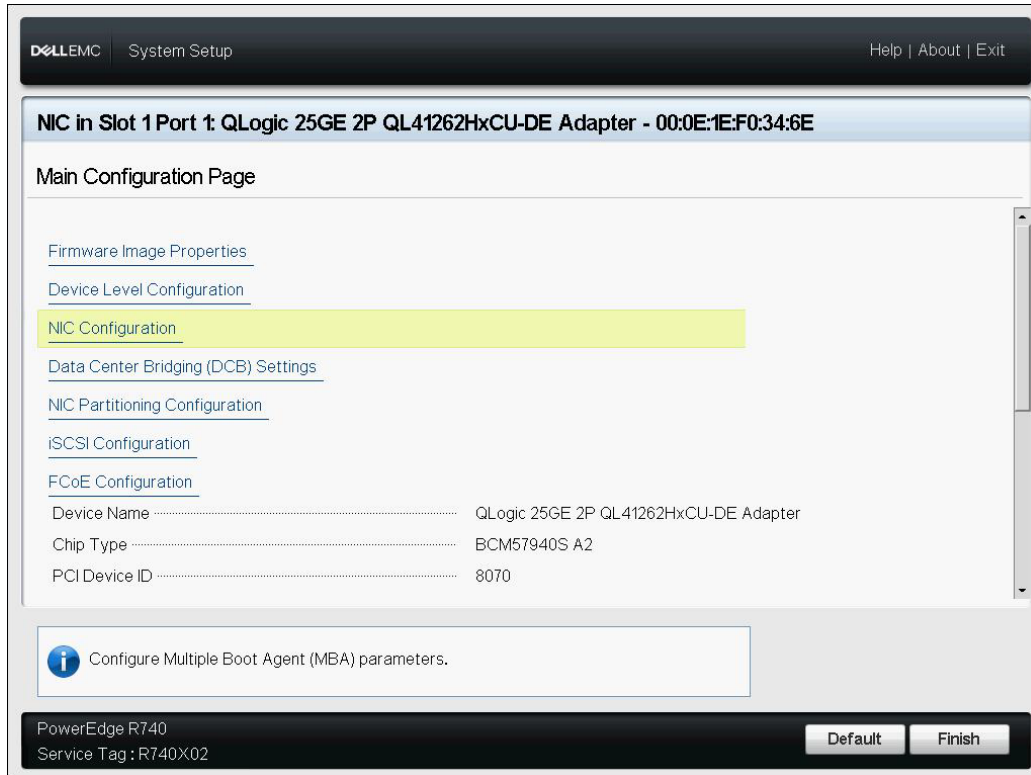

Figure 6-28. System Setup: NIC Configuration
4. On the Main Configuration Page, select **NIC Configuration** (Figure 6-28), and then press ENTER.